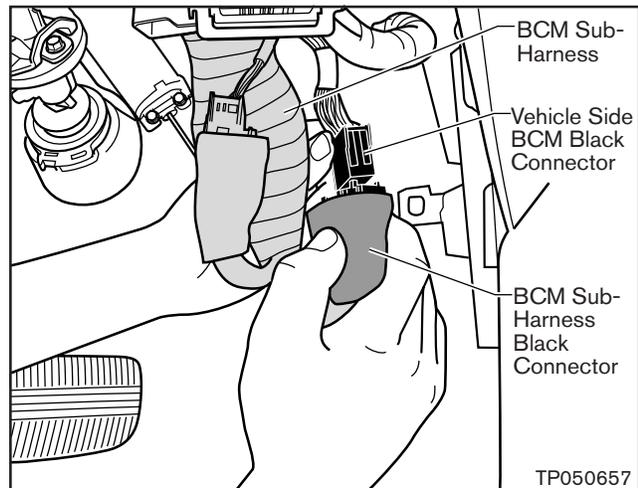

Figure 8b
- Then connect the Black Connector to the vehicle-side harness black connector (see Figure 8b).